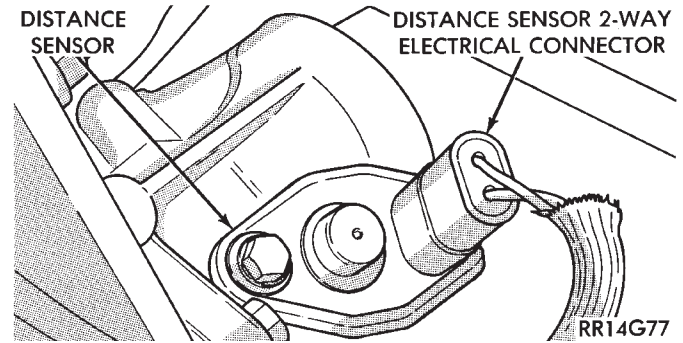

Fig. 20 Distance Sensor Wiring Connector
(30) Verify 2-way connector is attached to Distance Sensor (Fig. 20).
(31) Check hose and wiring connections at fuel pump. Check that wiring connector is making contact with terminals on pump.